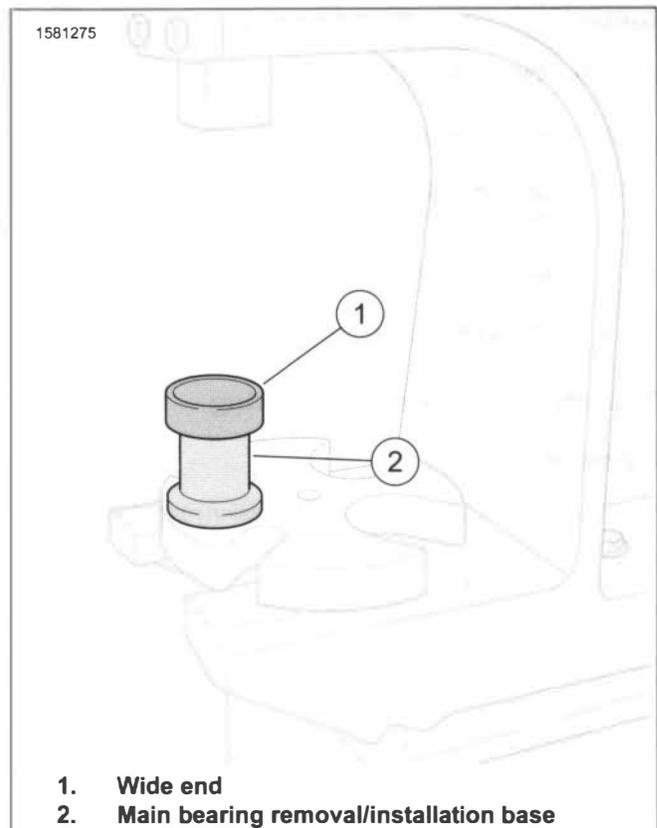

Figure 4-98. Main Bearing Removal/Installation Tool Base
- a. See Figure 4-98. Place main bearing removal/installation tool base (2) wide end (1) up.